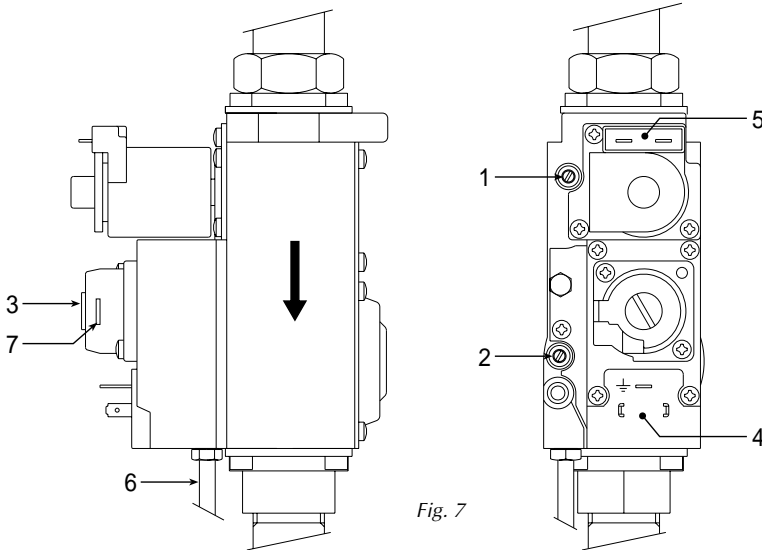

Fig. 7
Adjust the supply pressure at the main burners by turning the stabilizer screw 7 (fig. 7).
Caution: Pressure measured at pressure test points 1 and 2 (fig. 7) is displayed 30 seconds or more after making the adjustment.
- Carefully screw in fully the pressure regulating screw 7 (fig. 7) on the "Honeywell VR 4601 CB" gas valve in models 51-68-85 and the screws (fig. 8a and 8b) on the "DUNGS MBDLE 407 BO1" valve in model 102.